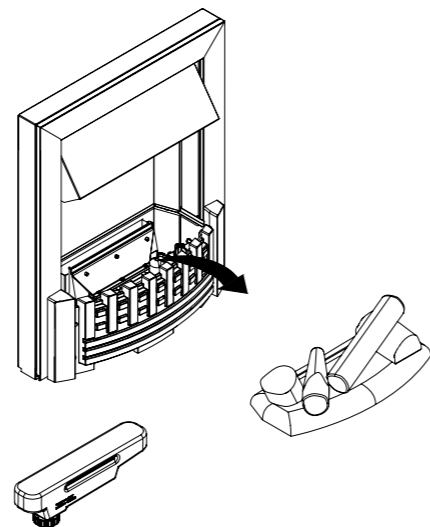

Fig.3
1. Press Switch 'A' to the 'OFF' (0) position
2. Gently lift out the fuelbed and place carefully on the ground. (See Fig.3)